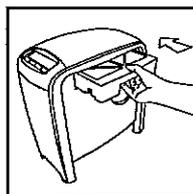
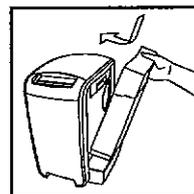

Fig. 10
Fig. 11
- Re-insert the filter assembly into the air washer housing as shown (Fig. 10). Place the water tank back into position (Fig. 11).